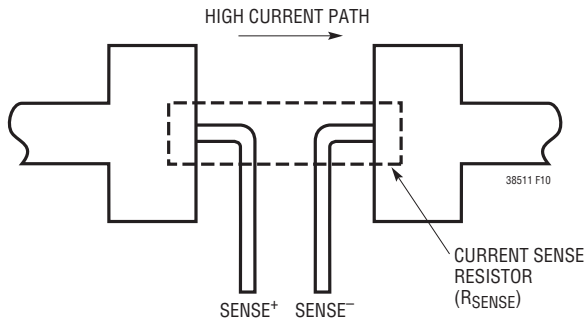

Figure 10. Kelvin Sensing R_{SENSE}
3. Are the SENSE⁻ and SENSE⁺ leads routed together with minimum PC trace spacing? The filter capacitor between SENSE⁺ and SENSE⁻ should be as close as possible to the LTC3851-1. Ensure accurate current sensing with Kelvin connections as shown in Figure 10. Series resistance can be added to the SENSE lines to increase noise rejection and to compensate for the ESL of R_{SENSE} .